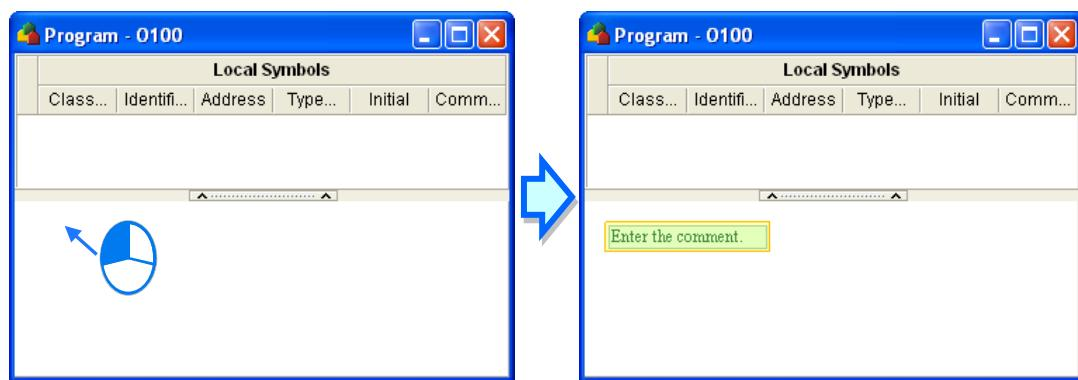

Figure 12-41 Inserting a comment
- After the users click a position in the program editing area, an object will be inserted, as shown in figure 12-41.